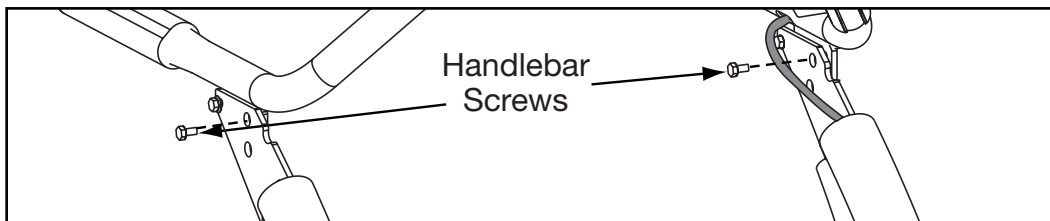

Figure 2
- A. Using a 1/2" wrench, secure the handlebar with two screws provided in bag 1. Be sure to install the screws from the right. See Figure 2.
NOTE: The two screws on the handlebar are installed from the right. See Figure 2.